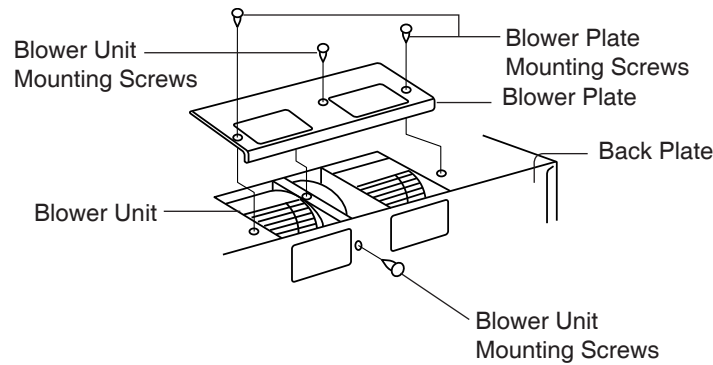

Fig. 1-2-1
(Fig. 1-2-1)
- (2) Remove the blower plate from the product. (Fig. 1-2-1)
- (1) Remove two blower plate mounting screws and two blower unit mounting screws, top and rear. (Fig. 1-2-1)